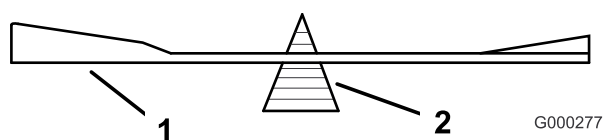

Figure 98
2. Check the balance of the blade by putting it on a blade balancer (Figure 98).